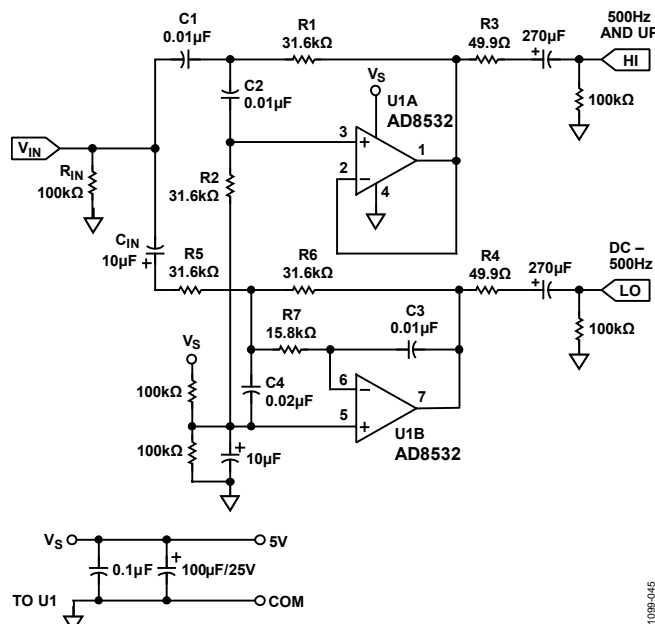

Figure 45. A Single-Supply, 2-Way Active Crossover
Active filters are useful in loudspeaker crossover networks because of small size, relative freedom from parasitic effects, the ease of controlling low/high channel drive, and the controlled driver damping provided by a dedicated amplifier. Both Sallen-Key (SK) and multiple-feedback (MFB) filter architectures are useful in implementing active crossover networks. The circuit shown in Figure 45 is a single-supply, 2-way active crossover that combines the advantages of both filter topologies.